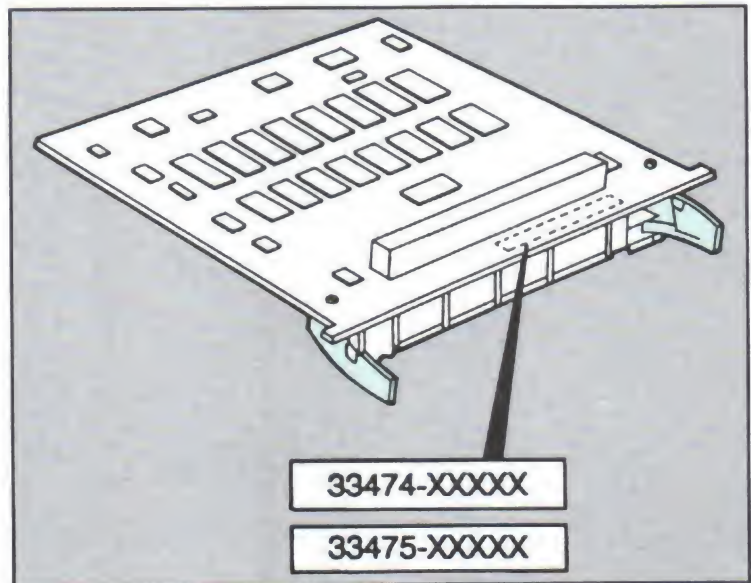

Figure E-1. Memory Board Identification
1. For part numbers, refer to Figure E-1 and the table below (XXXXXX indicates that the last five digits are manufacturing numbers that may change).